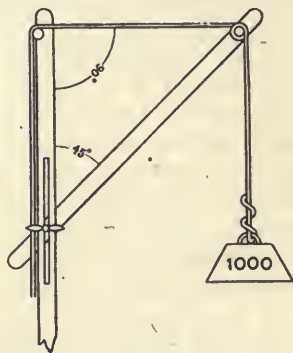

FIG. 70.—A crane with horizontal tie.
5. A crane is set up with the tie horizontal. (See Fig. 70.) If 1000 lbs. is to be lifted, find the tie stress and the boom stress if the boom angle is 30 degrees? If 45 degrees? 60 degrees?